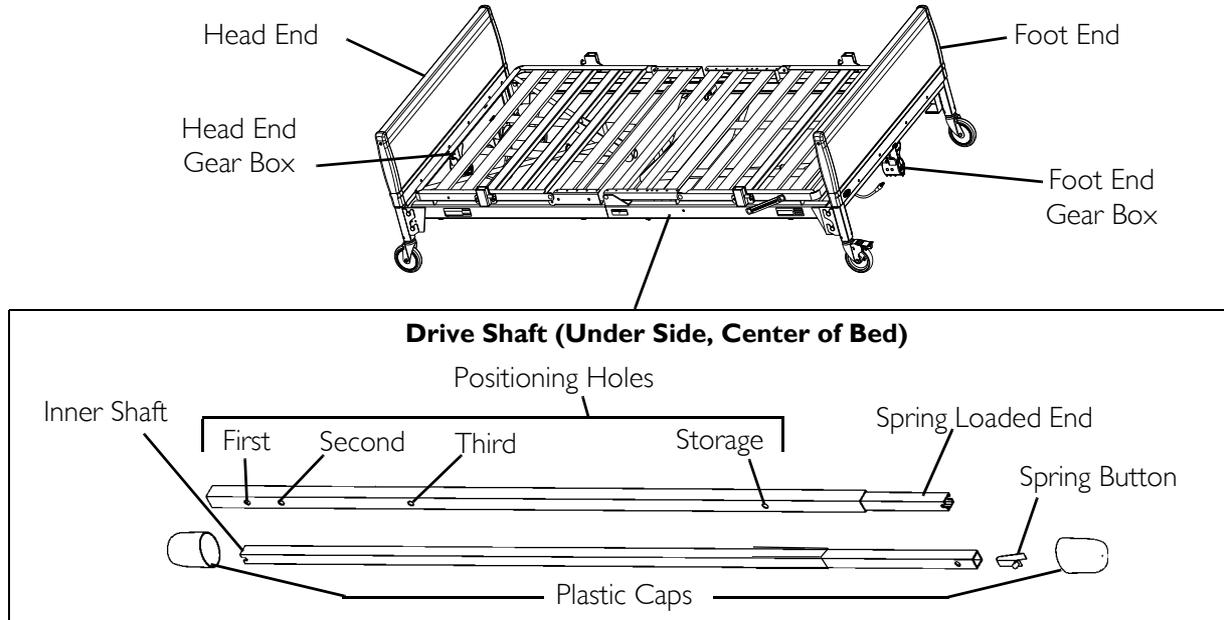

FIGURE 9 Assembling/Installing/Removing Drive Shaft
For this procedure, refer to FIGURE 9 and FIGURE 10 on page 43.
3. Engage the spring button into the third positioning hole. Refer to FIGURE 9.